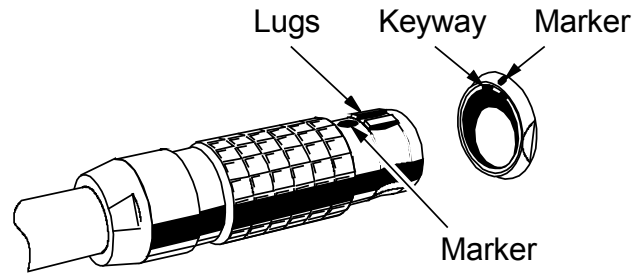

Fig. 4-3 Connection of the pre-wired cable to the thermometer
- 1) Refer to Fig. 4-3. Align the red marker near the lugs of the pre-wired plug with the red marker above the keyway in the socket on the thermometer.